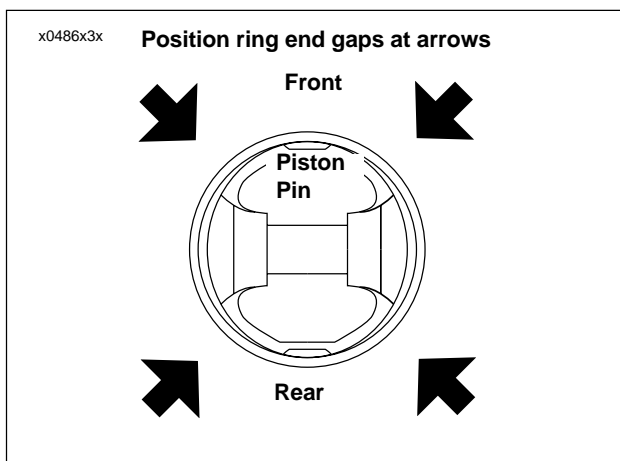

Figure 3-100. Ring End Gap Position
10. See Figure 3-100. Install rings so end gaps of adjacent rings are a minimum of 90° apart. Ring gaps are not to be within 10° of the thrust face centerline.